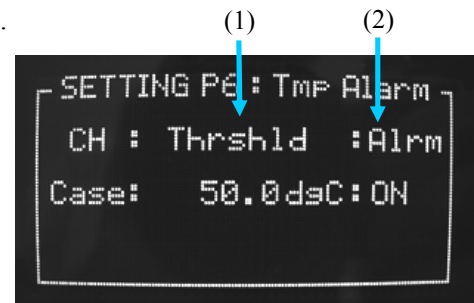

Fig.13 SETTING P5 (e.g.)
6.3.5 Page5: MiscAlarm (Fig.13)